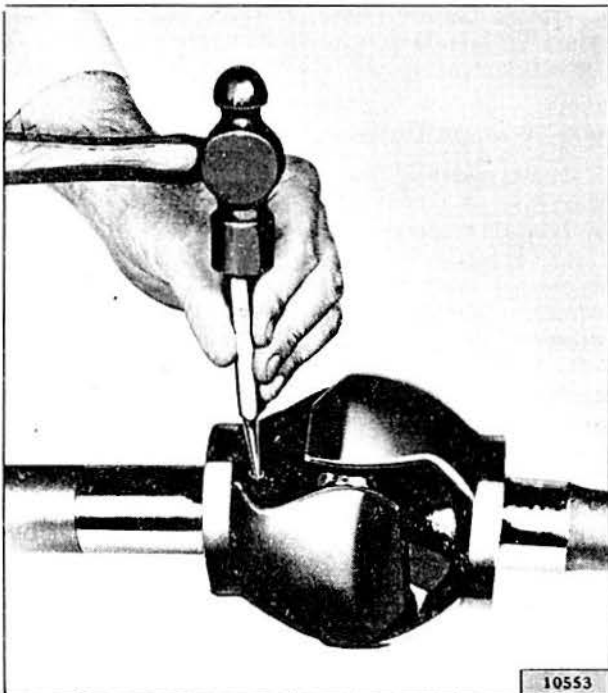

FIG. 223—INSTALLING BENDIX JOINT LOCK PIN
- g. Install the retainer pin (lock pin) and prick punch both ends to securely lock it in place. Always use a new retainer pin if available. See Fig. 223.